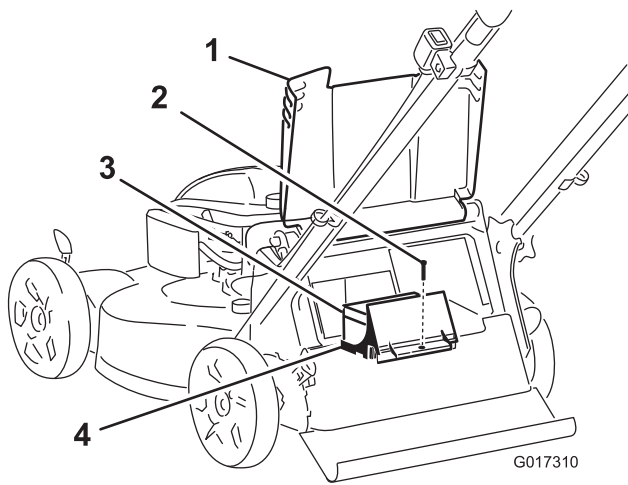

Figure 35
2. Raise the rear deflector and locate the battery compartment (Figure 35).